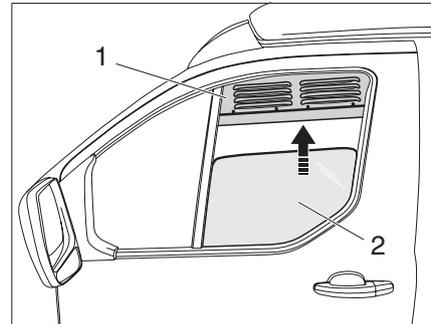

Fig. 11 Insert ventilation grille
Stow the ventilation grille (Fig. 11,1) safely while driving.
- ▶ Wind down the vehicle window (Fig. 11,2).
- ▶ Insert the ventilation grille (Fig. 11,1) into the window frame at the top.